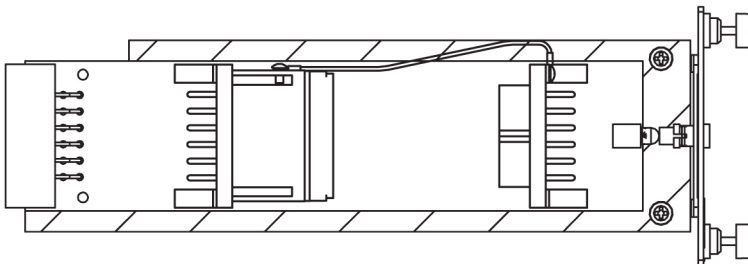

Figure 46: Jumper Connector - Operational Mode.
3. On the jumper circuit board, unclip the 12-pin connector jumper from P72 and re-attach it to P71. Insert it until the plastic retaining clips “snap”. See Figure 46: Jumper Connector - Operational Mode. Note that the jumper has a retaining strap so it will not get dropped or lost. This repositioning establishes a connection between the diode boards with the input and fuse panels.